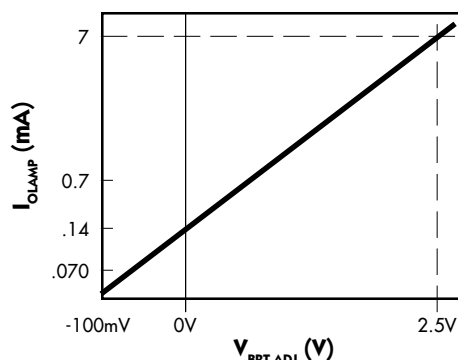

FIGURE 12 — Average Lamp Current vs.  $V_{BRT}$  Voltage (per Lamp)
- 1) By varying the input voltage on the brightness pin as indicated in Figure 12. Caution must be exercised when applying negative voltage to the brightness control input. Applying more than -300mV to any inverter input will cause inverter malfunction (see Absolute Maximum Ratings).